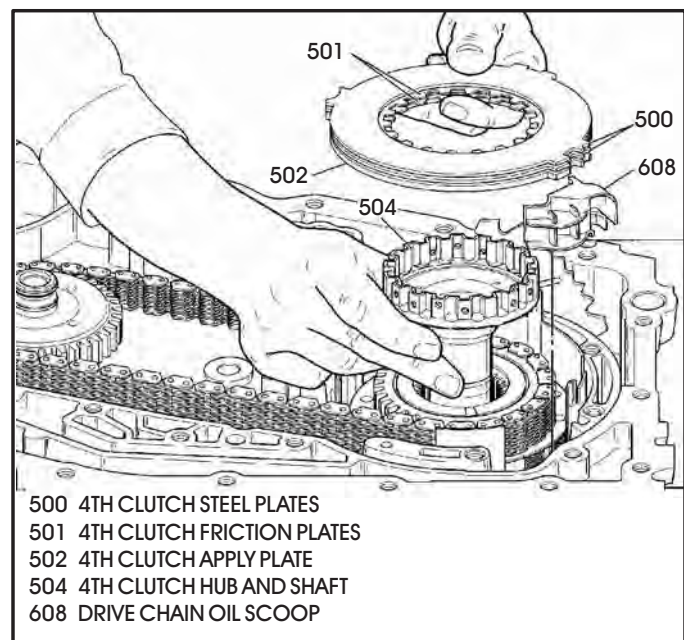

Figure 190
56. Install 4th clutch hub and shaft, drive chain oil scoop, as shown in Figure 190.
57. Install the 4th clutch plates over the 4th clutch piston and 4th clutch hub and shaft, as shown in Figure 190, depending on the model you are rebuilding.